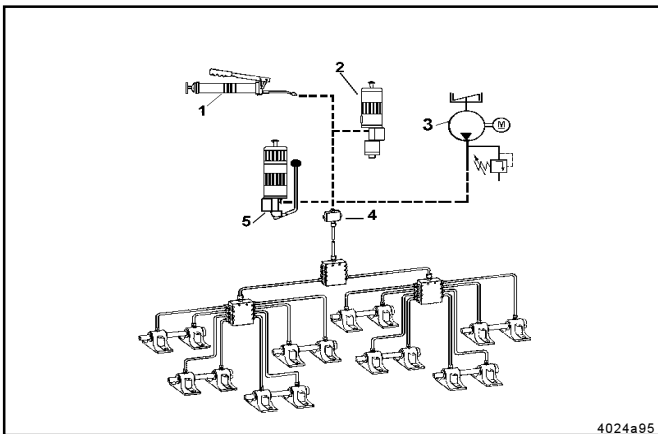

Fig. 6 - Possible pump connections
- When they are used in connection with hand-operated pumps, pneumatic or electric pumps the progressive metering devices are a simple and low-cost centralized lubrication system. See Fig. 6.